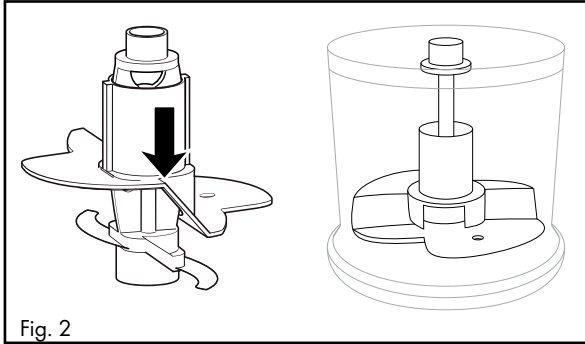

Fig. 2
- To whip 100 ml of cream, place the emulsifying disc **6** onto the blade holder **5** so that it lies against both blades **7** and clicks into place (fig. 2):